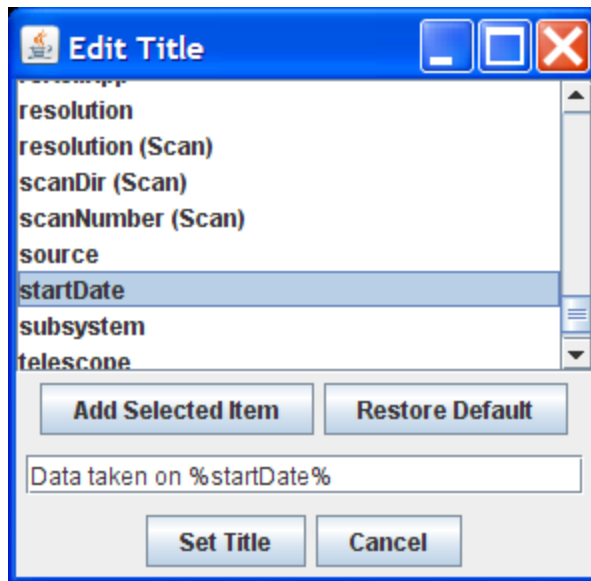

Figure 2.51. Edit Title
3. In the Preferences Panel, click the buttons for edit titles, subtitles, and legends to customize these fields. Fields are populated by the entries in the inspected product and free text can be added by the user. Default title, subtitle, and legend information are stored and can be retrieved through the customization window. See Figure 2.51.